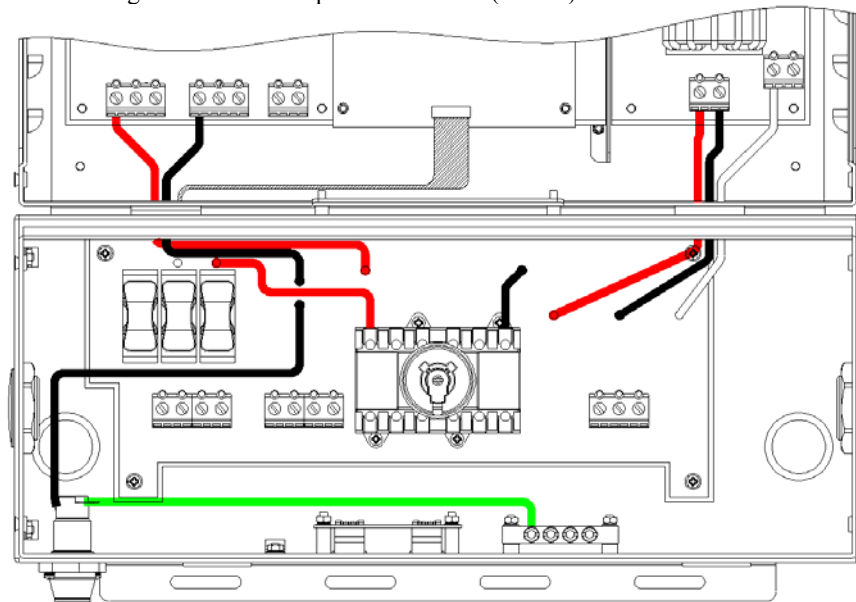

Fig D1 PVI 3000 supports only three (3) PV string fuses
The wiring box of the PVI 3000-5300 inverter is designed with a pair of DC terminal blocks which support up to four (4) independent PV strings to be connected in parallel in the wiring box and then feed into the inverter. The inverters other than PVI 3000 are shipped with up to four (4) 15A, 600Vdc PV string fuses for the PV strings. The PVI 3000 is shipped with three (3) 15A, 600Vdc PV string fuses, and therefore, the fourth pair of terminals (from left as shown in figure D1) are not be used to connect to a PV string. However, the size of the PV string fuse shall be determined by the electrical ratings of the PV module and by UL and National Electrical Code (NEC) requirements. Please refer to the section 5.4.2 for the replacement of the PV string fuses.